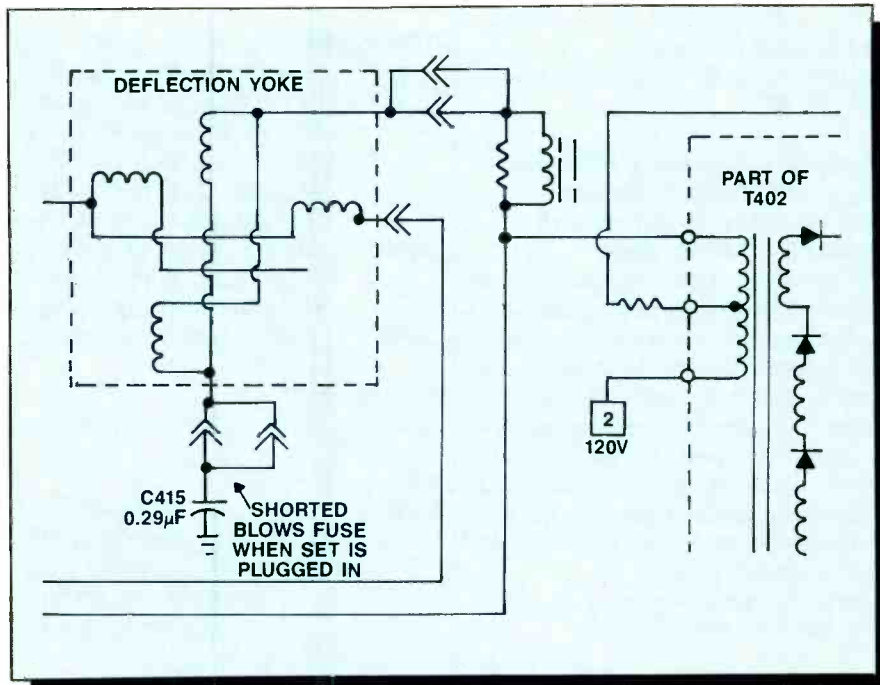

Figure 2. A shorted C415 was blowing fuse F101 whenever the set was plugged in.
pacitor C415 was shorted. (See Figure 2.) The capacitor, a 0.29μF device rated at 200Vdc, had to be specially ordered from RCA. Evidently it is a special high-frequency polycarbonate capacitor.
5. What value of resistance at x in the circuit in Figure 2 will be required for the bridge to be balanced?
A timing chart (shown in Figure 2) helps to depict the relationship between all of the timing signals. If a flaw occurs in the timing sequences, the memory-access portion of the memory operation will have problems. Instead of relying on disk-based diagnostics, the technician could depend on his troubleshooting expertise.
Again looking at Figure 2, the technician can use a multitrace oscilloscope, preferably with a 100MHz bandwidth, to check for proper timing. Multiple problems with memory access suggest that a problem has occurred in either the column-address timing, row-address timing or multiplex timing relationships. The technician generally will find that a faulty delay line, U456, will cause timing problems. Checking for timing problems calls for a combination of traditional troubleshooting methods and an on-board diagnostics aid. This check essentially calls for initiating a memory read or write operation through the ROM diagnostic sequences so the technician can watch the timing sequences and their relationships.
Figure 2. This timing chart shows the relationship between all the timing signals. If a flaw occurs in the timing sequences, the memory-access portion of the memory operation will have problems. Multiple problems with memory access suggest that a problem has occurred in either the column-address timing, row-address timing or multiplex timing relationships.
mand. With this command, the technician may fill a specific range of memory, again using the hexadecimal address, with data. The technician would type F, the address and some string of data. This code would appear as >F1800:0,3FFF. This is a test and would fill 3FFF memory locations with "This is a test," while starting at address 18000. After initiating the debugging commands, a technician may use an oscilloscope to check and compare the operating circuit waveforms with the waveforms shown in Figure 2.